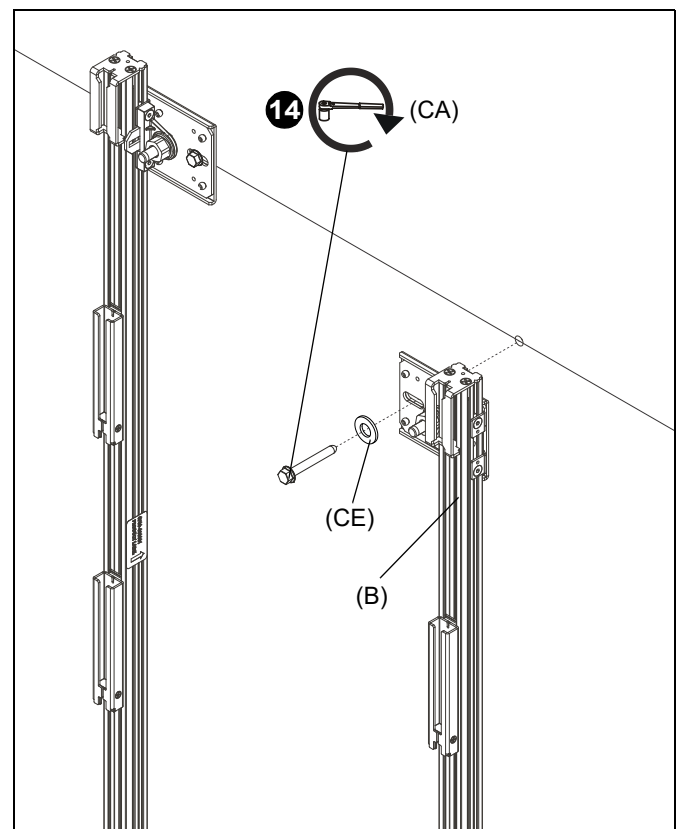

Figure 6
14. Use 5/16 x 2 1/2" hex head lag screw (CA) and 5/16" washer (CE) to loosely install right upright (B) to wall. Center the lag bolt horizontally along mounting slot. PARTIALLY tighten bolt. (See Figure 6)